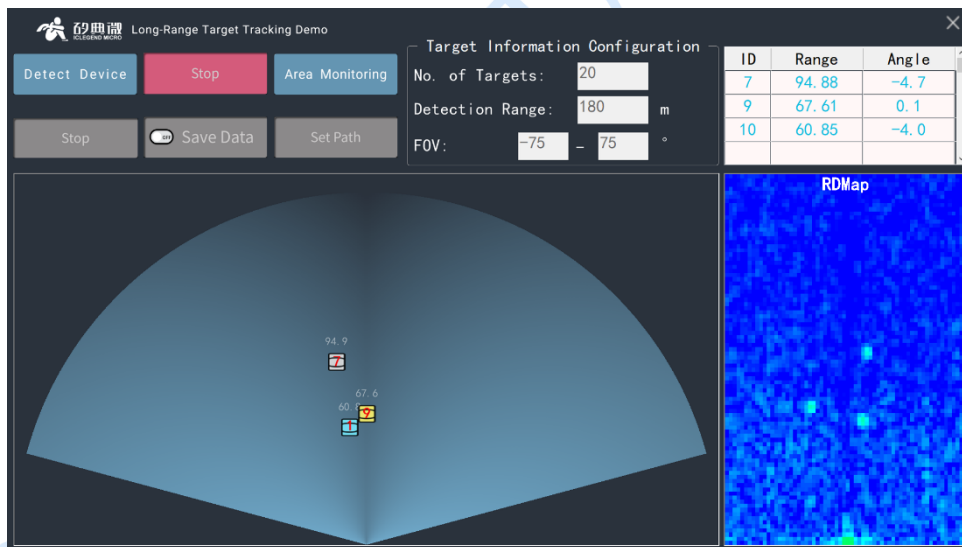

Figure 4-10 Outdoor Long-Range Target Tracking demonstration
- Step 4: Click the **Start/Stop** toggle button, the program starts reading and presenting the detection results, and each detected target will be presented by an rectangular icon with its real-time distance to the sensor tagged above, see Figure 4-10; Meanwhile, the table on the right-top displays a list of detected targets and their distances and angles relative to the evaluation board, and the RDMap area beneath it presents the energy distribution of the detected area; (Optional) Click the **Start/Stop** toggle button to stop detecting and presenting;